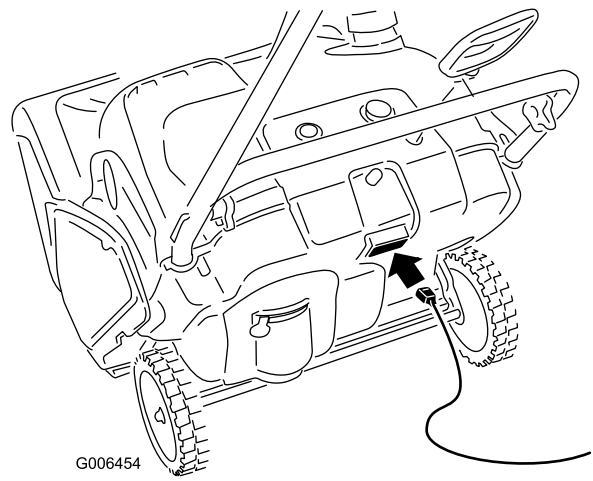
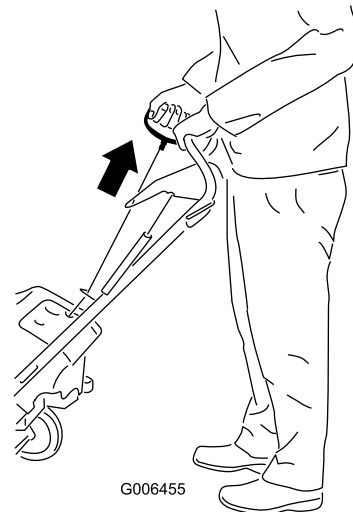

Figure 13
Figure 14
4. Connect an extension cord to a power source and the snowthrower, and push the electric-start button (model 38582 only) (Figure 13), or pull the recoil start handle (Figure 14).